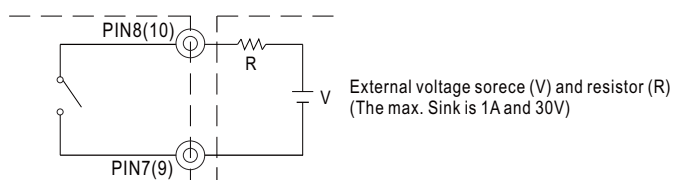

Fig 2.2 Internal circuit of AC OK (Battery Low), via relay contact
(1) Alarm signal is sent out through "AC OK " & " Battery Low " pins via relay contact.
(2) An external voltage source is required for this function. The maximum applied voltage is 30V and the maximum sink current is 1A. Please refer to Fig 2.2.
(3) Table 2.1 explains the alarm function built in the power supply
(4) AC OK signal (RL1, referring to Block Diagram) will go into hiccup mode when the overload protection is activated.